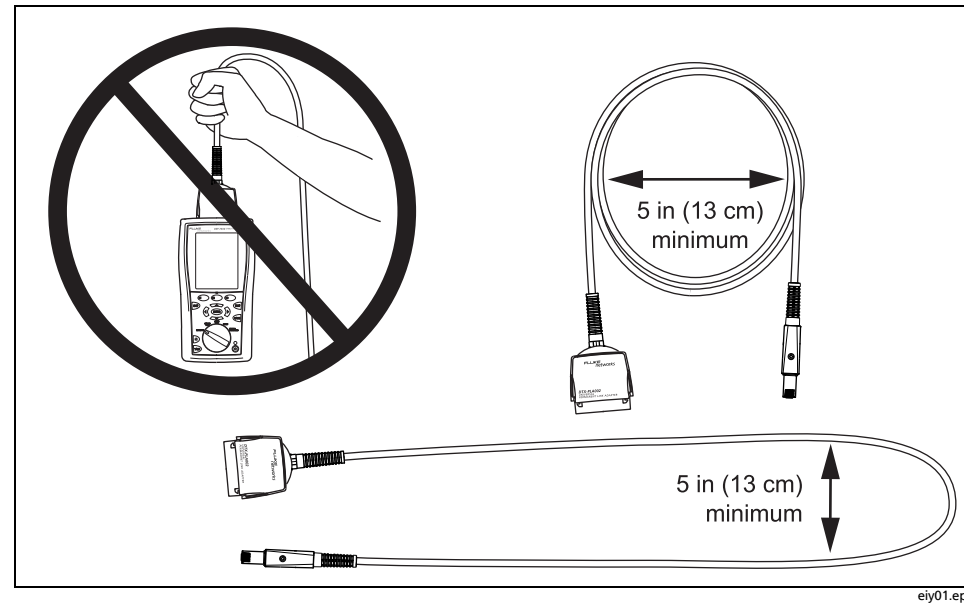

Figure 1. Handling Guidelines
- **Never pinch, kink, or crush the adapter's cable.** Follow the handling guidelines given in Figures 1 and 3.